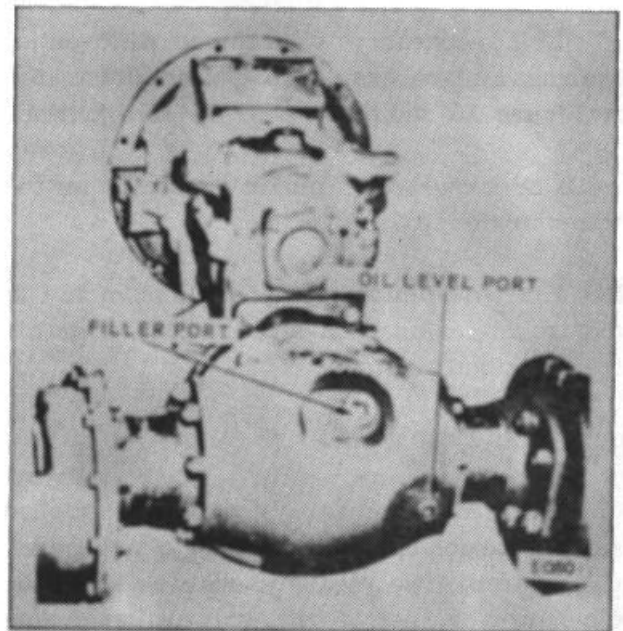

Figure 16.
7. Remove the plugs from the oil filler port and oil level port. (Fig. 16) Add oil